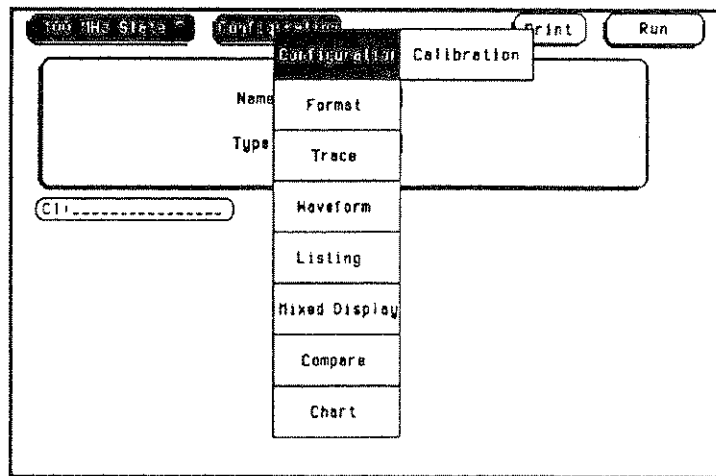

Figure B-6. Select Calibration
2. In the pop-up menu shown in figure B-6, touch **Calibration**.